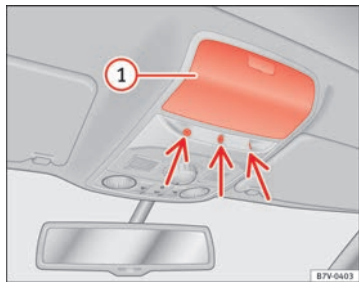

Fig. 49 On the roof console: interior monitoring sensors
Close the storage compartment ⇒ Fig. 49 ① on the roof console otherwise the interior monitoring function (arrow) may not work without restrictions.